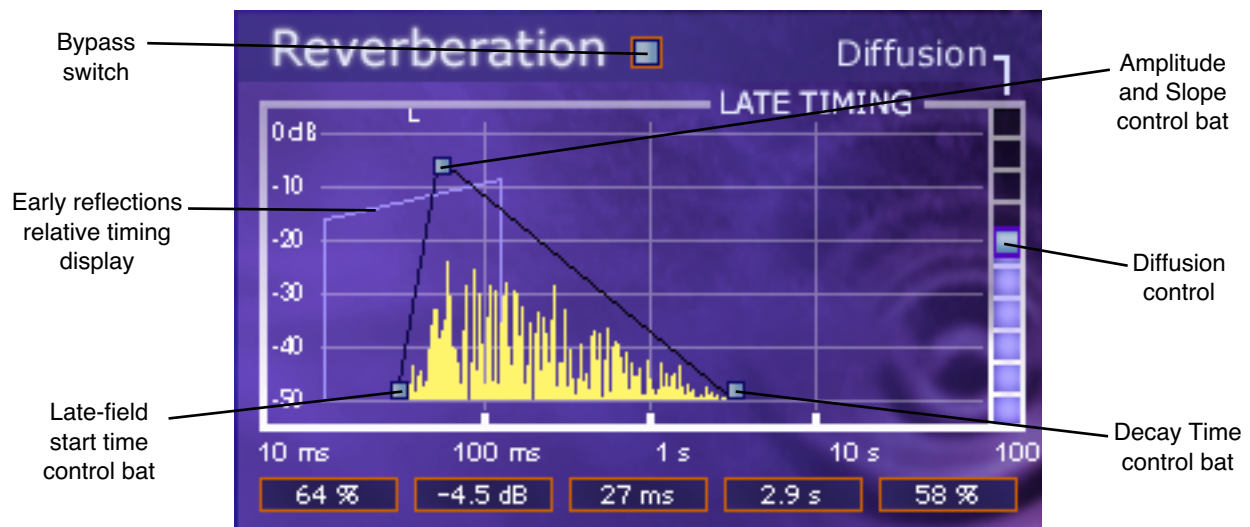

Figure 101. DreamVerb Reverberation panel
The parameters in the Materials panel, in conjunction with the Shape panel (Figure 98 on page 269) and Reverberation panel (Figure 101 on page 275) effect the spatial characteristics of the reverb.
Note: While materials are used to control decay rates as a function of frequency, the overall decay rate of the late-field reverberation is controlled from the Reverberation panel (see Figure 101 on page 275).
The Reverberation panel (Figure 101) contains the parameters that control the late-field (LF) reverb tail for DreamVerb.